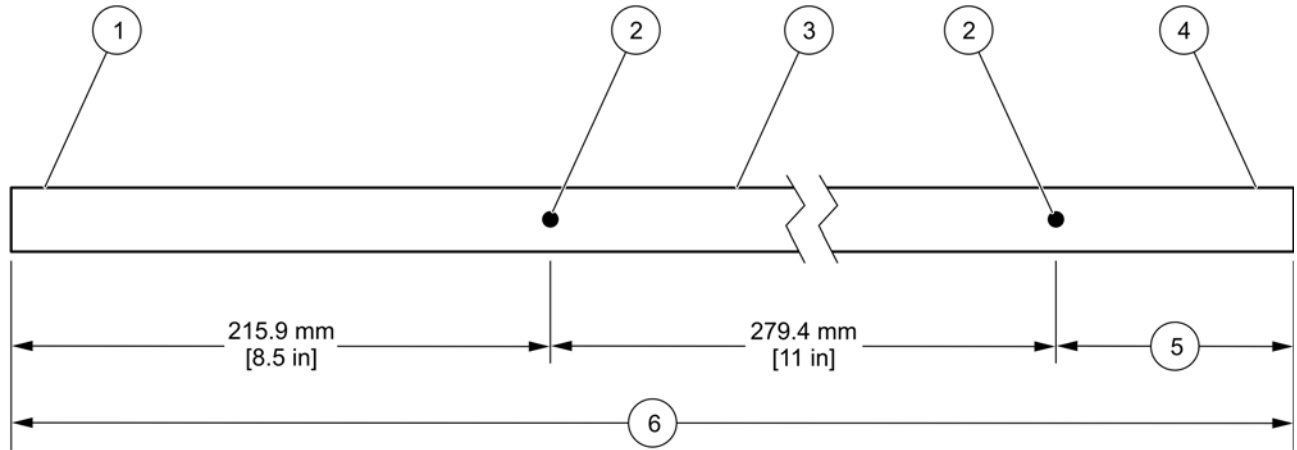

Figure 22 Pump tubing measurement
2. If using bulk pump tubing, cut a 23.25 inch piece (24.25 inches for the AWRS) and mark the tube with alignment dots at the locations shown in Figure 22 on page 63.